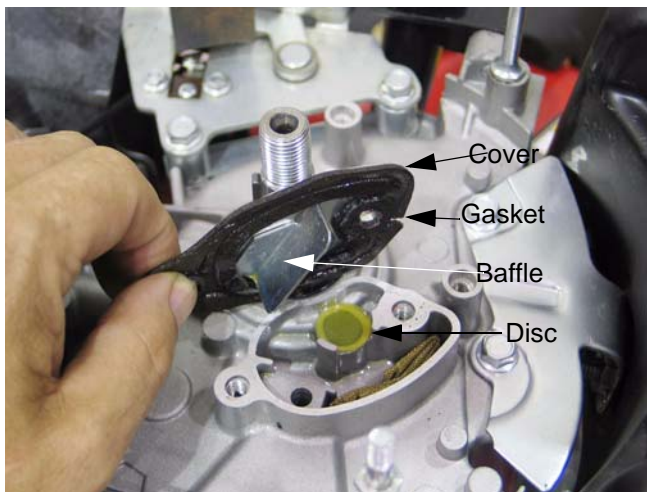

Figure 11.8
11.8. The cover and gasket can be separated from the chamber. See Figure 11.8.